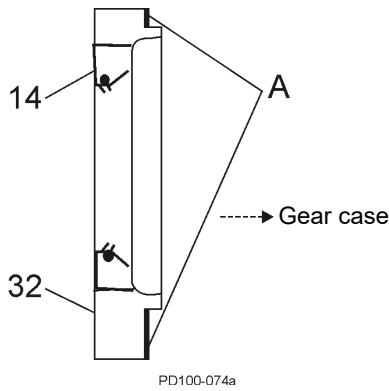

Figure 212 - Install Bearing Retainer
- Coat the retainer flanges with silicone sealant (Figure 212, item A). (Gore-Tex® sealing tape can be used on silicone free models.) The grease seal (item 14) will be flush with the front of the bearing retainer. On 030 models, the grease seal will be against the step on the inside diameter of the retainer.
- Install the bearing retainers (Figure 212, item 32).